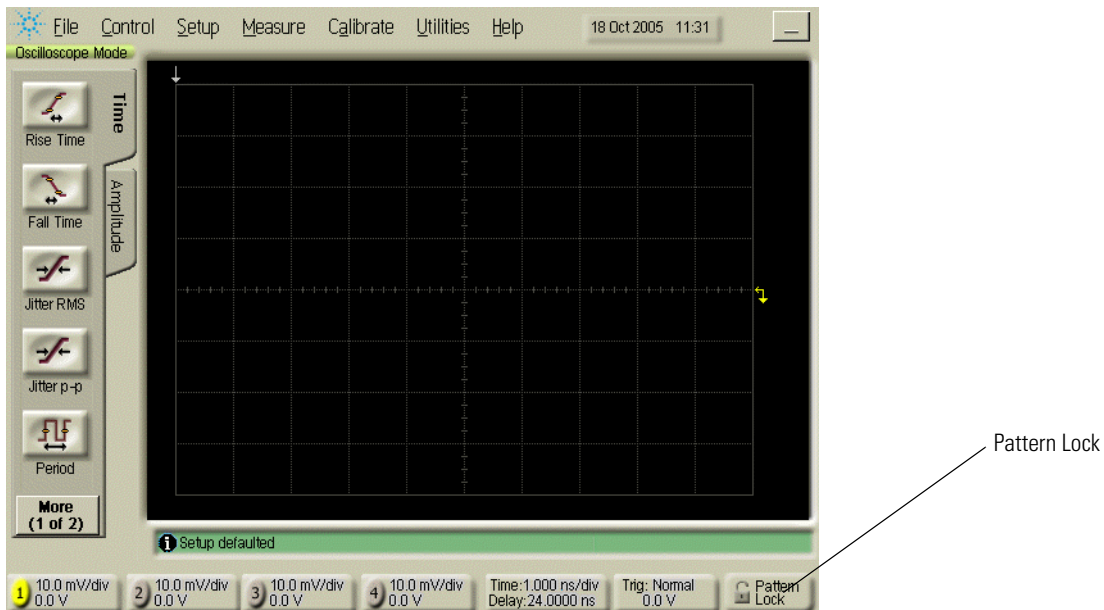

Figure 1-23. Pattern Lock Button
- e** On Option 001 instruments, click the **Pattern Lock** button shown in Figure 1-23. When the **Pattern Autodetect Fail** dialog box is displayed, click **Cancel** to close the dialog box.